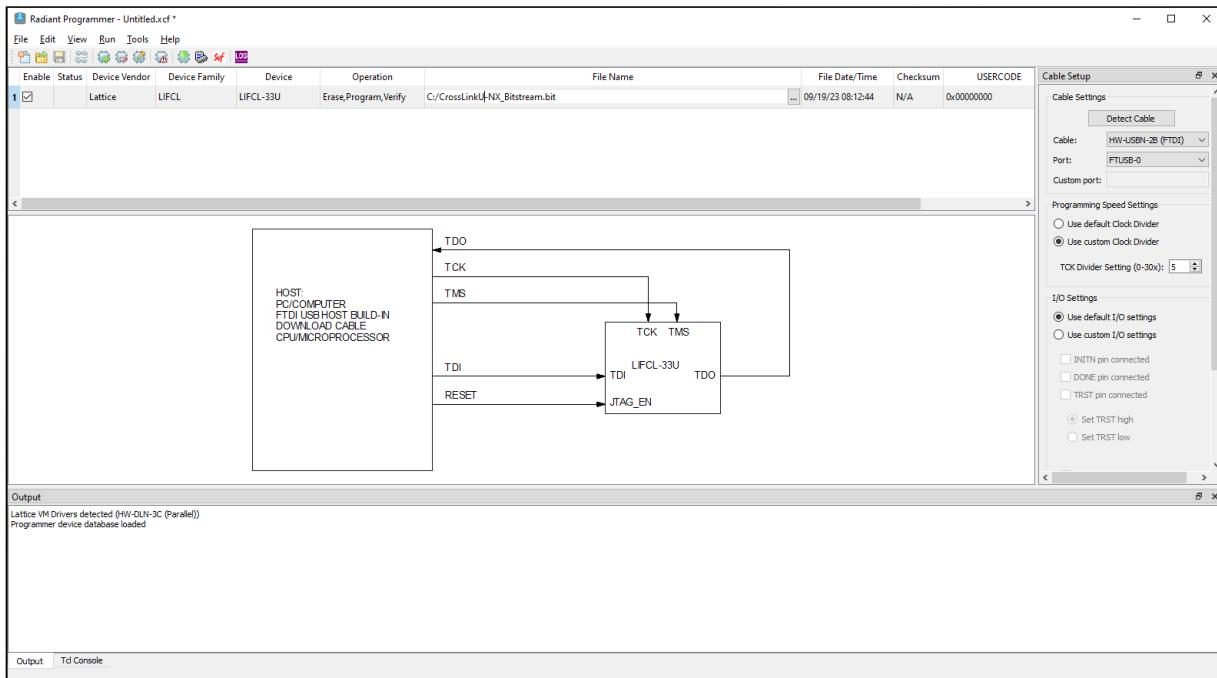

Figure 3.3. Lattice Radiant Programmer – Fast Configuration
- Once the board is successfully scanned, the window shown in Figure 3.3 opens. This interface allows you to enter a file name.